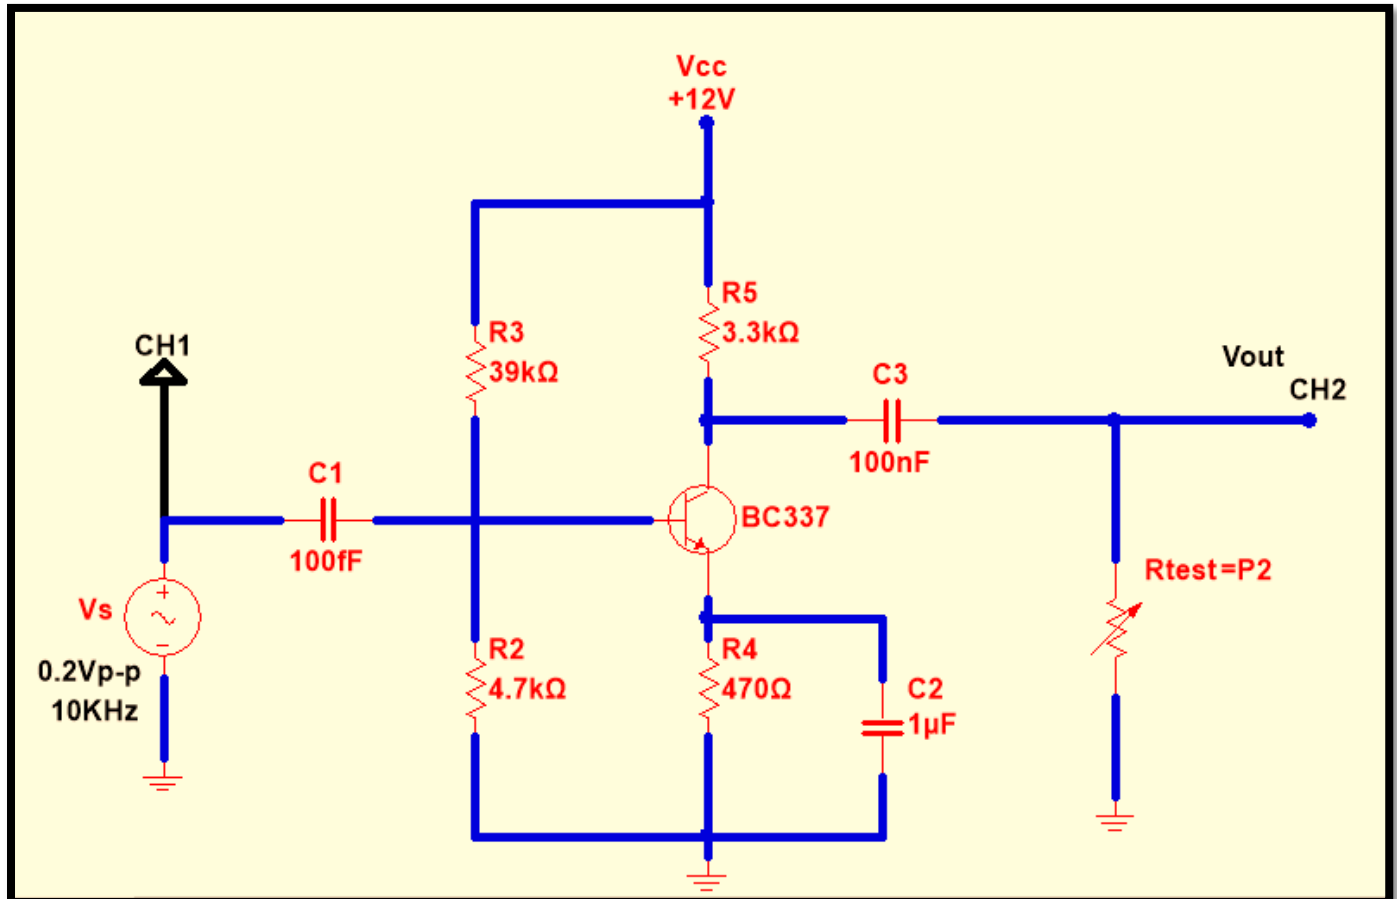

Figure 8: Test Circuit for Measuring the Output Impedance of the Amplifier
9. Connect the circuit shown in Fig.8 to measure the output impedance of the amplifier. Resistor  $R_{\text{test}}$  is inserted at the output terminals instead of  $R_{\text{L}}$ .